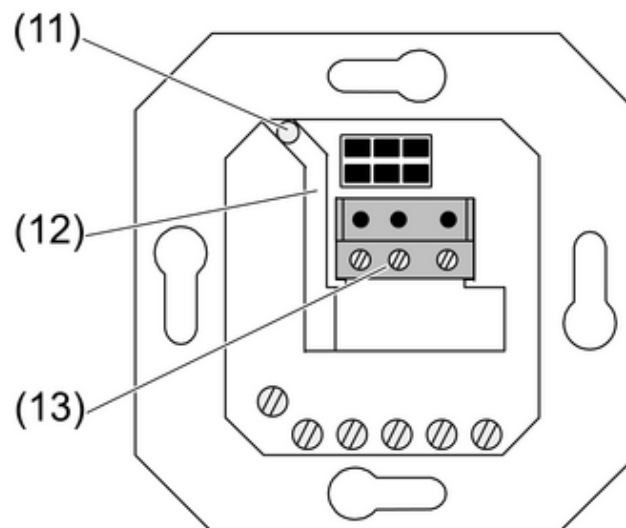

Figure 7: In-wall routing of the sensor cable
The sensor cable can be installed in three different ways. In-wall routing (figure 7), surface-mounted routing (figure 8), and with appropriate covers plugging the sensor cable into the cover (figure 9).
- i** For in-wall routing of the sensor cable, use only shielded cables. Recommendation: J-Y (ST)Y 2x2x0.6 mm.
- Insert the cable through the hole (11) in the insert and route it through the cable duct (12) to the terminal block (13) (figure 7).